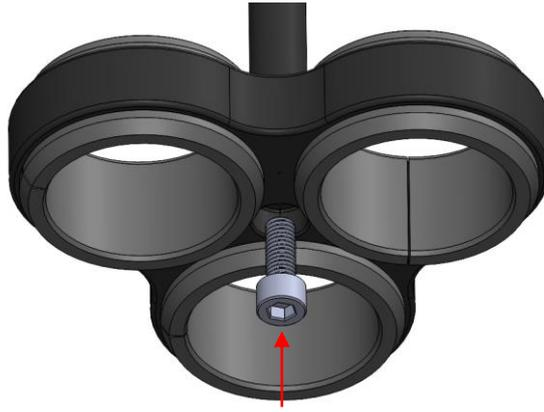
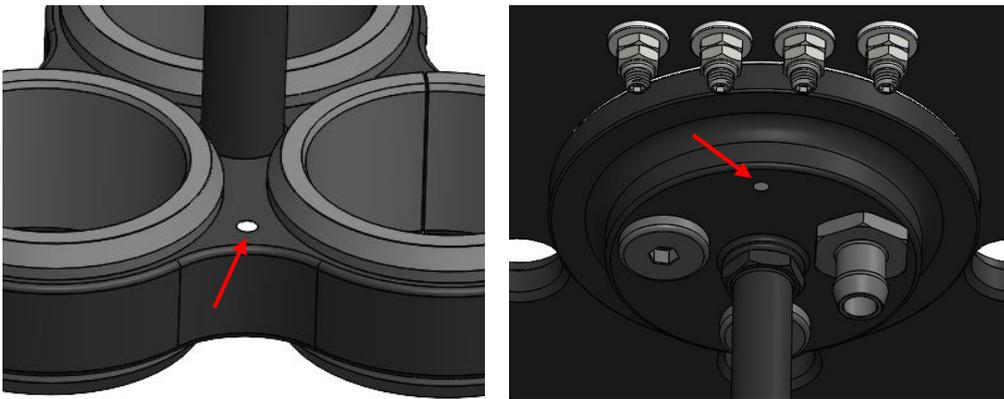

Figure 6
Figure 7
4. Fasten the supplied M6x16mm socket head cap screw with a low strength thread-locker through the bracket and into the central shaft (figure 6). Ensure the markers on the bottom of the pump collector and the top of the pump bracket are **above** each other as shown in figure 7 (pumps will only line up with this orientation).